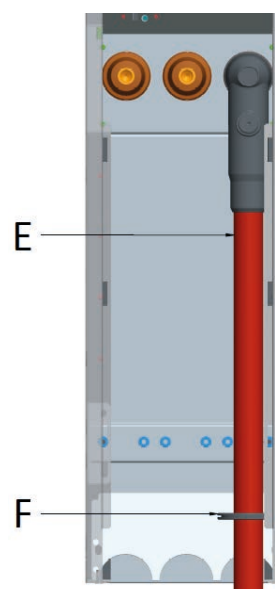

Figure 22: Mounting of the cable connections
Depending of the cable sections, it may be necessary to dismantle entirely the cable clamps (Figure 22 D).
- Incise the cable glands with a cutting tool (Figure 22 F)
- Slide the rubber cable gland (Figure 22 F) along the cable on the adequate height.